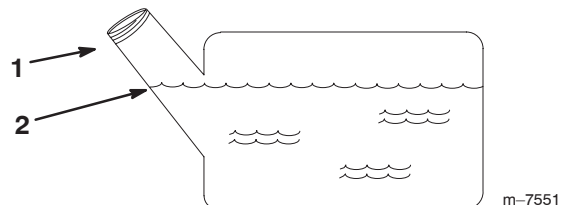

Figure 6
4. Add unleaded gasoline to the fuel tank, until the level is 1/4-1/2 inch below the bottom of the filler neck (Fig. 6).
Important This space in the tank allows gasoline to expand. Do not fill the fuel tank completely full (Fig. 6).